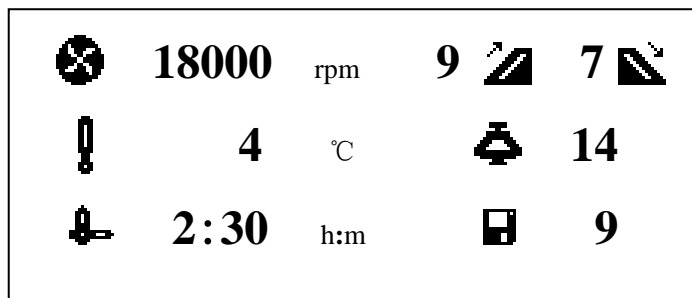

Figure 5-2 The LCD main interface
| (1) | | LCD Screen | Displays running parameters and state(Figure 5-2) |
LCD screen displays the main interface as figure 5-2. The left part shows parameters of the rotary speed, the temperature and the time. The right part shows the operation status of acceleration, deceleration, rotor ID and program group etc.